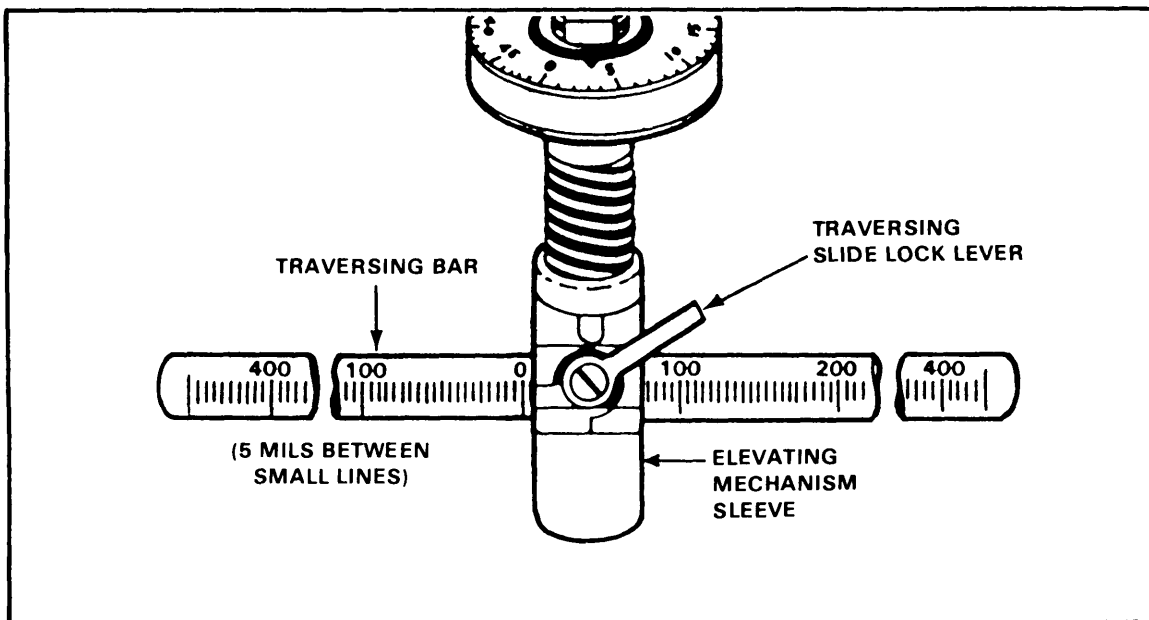

Figure 5-6. Direction reading.
c. Obtain and record direction readings to all targets within the sector of fire (Figure 5-6). Loosen the traversing slide lock lever and move the slide along the traversing bar until the MK 19 is laid on the center of a point target or on either flank of a linear target. Lock the traversing bar and read the direction from the scale on the traversing bar. If the left edge of the traversing slide does not fall exactly on a 5-roil tickmark, move the left edge of the traversing bar slide back to the next smaller mil reading. Use the traversing handwheel to complete the initial lay. Obtain a reading to the target by the direction of the MK 19 barrel. If the barrel is moved to the right, record a right reading. Read the number on the traversing bar from the left side of the